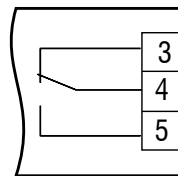

Fig. 5.3 Relay output
- The outputs should be wired in accordance with Fig. 5.3...5.9